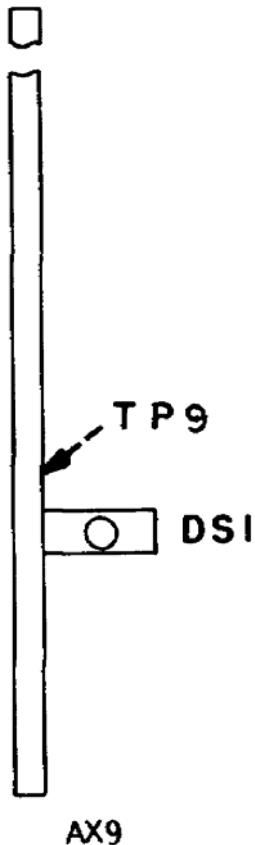

Figure 9. Aggregate Carrier LED Indicator.
a. Usually, the performance of status and BITE checks will determine the malfunction and display the problem on the front panel display. If a problem cannot be isolated to a specific module, then the module access panel must be removed, in order to use the LEDs on the aggregate carrier module (A9)(figure 9), transmit processor module (A10)(figure 10), and receive processor module (A11)(figure 11).